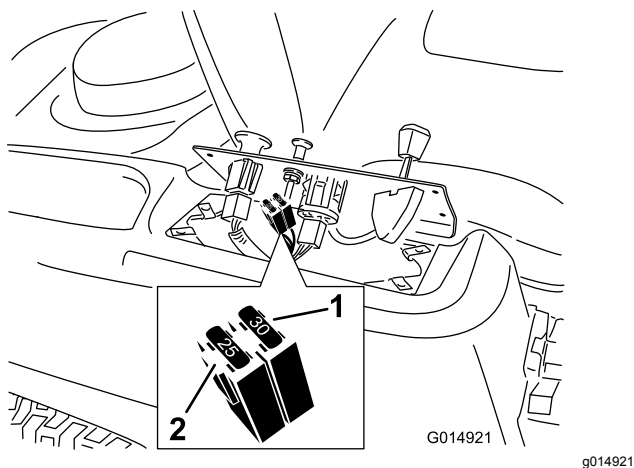

Figure 46
2. Lift the control pane up to access the main wiring harness and fuse block (Figure 46).
3. To replace a fuse, pull out the fuse to remove it (Figure 46).